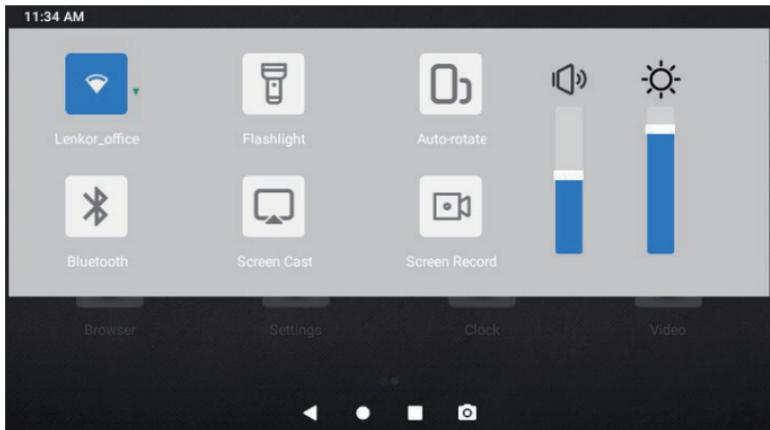

Figure 1.2.2
**Swipe-Down Menu:** Swipe down from the top of the screen to display the Swipe-Down Menu. This gives you instant access to Wi-Fi, Bluetooth, a flashlight, volume, screen brightness, screen projection, rotation, and screen recording (see Figure 1.2.2).